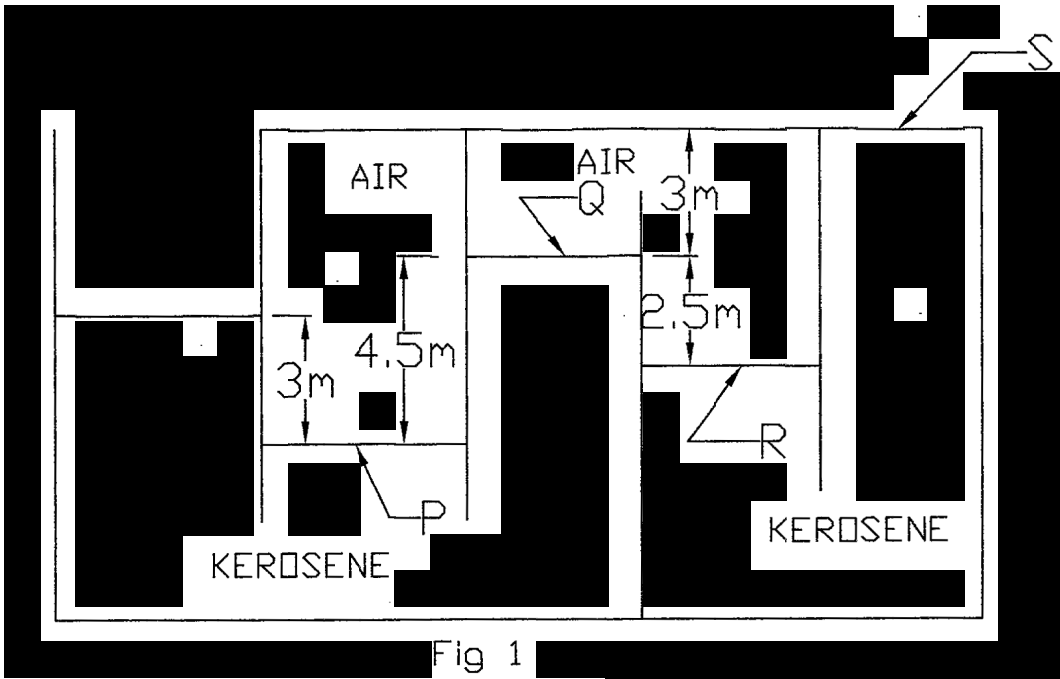

Fig 1
- 1(a) State and explain Newton's law of viscosity. Define dynamic viscosity. Prove that 1 poise = 0.1 N-s /m2 (7)
- (b) A tank with partitions containing water , air and Kerosene oil of specific gravity 0.9 as shown in Fig1. Find the gauge pressure and absolute pressure at points P , Q , R and S. (6)
- (c) State and prove Pascal's law (7)
- 2(a) A curved surface is immersed in a liquid whose specific weight is  $\gamma$  N/m3 . Derive the expression for the resultant force exerted by the liquid on the curved surface as well as the direction of resultant force. (7)